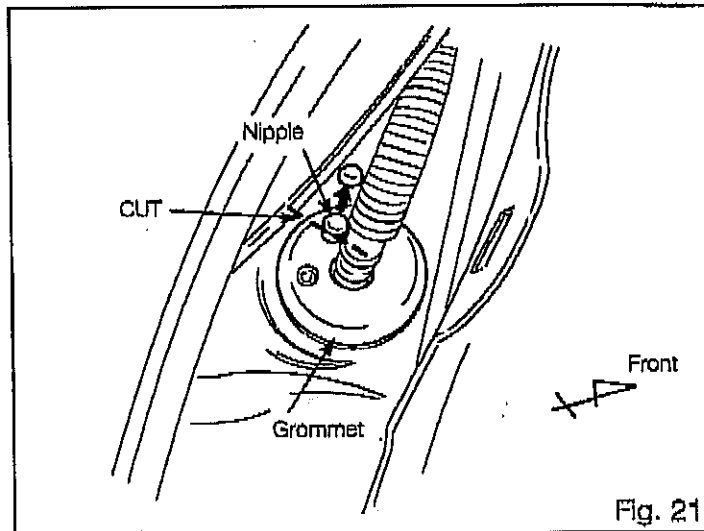

Fig. 21
- (4) Locate the vehicle's wire harness grommet, and cut off the tip of the grommet's nipple as shown. Fig 21